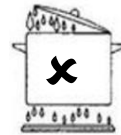

Fig. 16
- Ensure pan base is dry and avoid placing wet lids on hotplates (fig. 16).